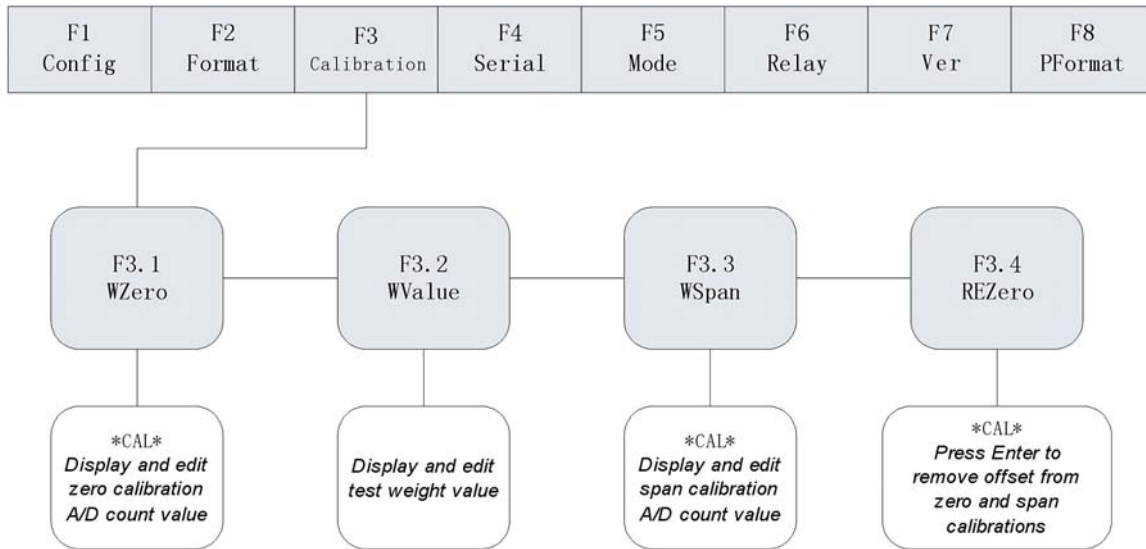
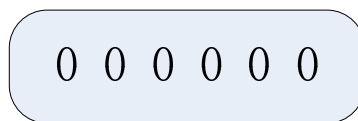

Fig. 4-1 F3(Calibration) Menu
Fig. 4-2 Editing Procedure for Numerical Values
- (1) Turn on the K1 switch to set indicator to the Configuration mode (display shows “F 1”) and remove all weight from the scale platform. If the test weights require hooks or chains, place the hooks or chains on the scale for zero calibration.
- (2) Press  $\blacktriangleright$  until the display shows “F 3” (see Fig. 4-1). Press  $\blacktriangledown$  to go to zero calibration mode. Display shows “F 3” (see Fig. 4-1).
- (3) When display shows “F 3.1”, there are 2 options :
- Press  $\blacktriangledown$ , display shows the A/D count of the original zero calibration. It can be edited following Fig. 4-2. When complete, press  $\bigcirc$  to save and to go to the next menu. Display shows “F 3.2”.
- (4) When display shows “F 3.2”, place test weight on the scale and press  $\blacktriangledown$  to show the test weight value. Follow Fig. 4-2 to input the test weight value, then press  $\bigcirc$  to save the value and go to the next menu. Display shows “F 3.3”.
- (5) When display shows “F 3.3”, there are 2 options :
- Press  $\blacktriangledown$  to show the A/D count of the original span calibration. It can be edited following Fig. 4-2. When complete, press  $\bigcirc$  to return to F3.4 Menu. Display shows “F3.4”.
- (6) F 3.4 Menu is used to remove a calibration offset when hooks or chains are used to hang the test weights.
- (3) Press  $\bigcirc$  when display shows “F5.2”. Display shows the code number of the required count items. Following the procedure in Fig. 4-2 to input and edit the code. The allowable selected numbers are 0 to 99. Press  $\bigcirc$  to save the code number and to go to the next menu. The display shows “F5.3”.
- (4) Remove all the weight from the scale platform when display shows “F5.3”. Press  $\bigcirc$  to zero the scale. Display shows “CAL” while processing the zeroing operation. When complete, display shows “F5.4”.
- (5) Press  $\blacktriangledown$  when display shows “F5.4”. Display shows the sampling quantity of the count items. Use  $\blacktriangleleft$ ,  $\blacktriangleright$  keys to specify the sampling quantity. Place the same quantity of the sample count items onto the scale platform as the input sampling
- (6) Press  when display shows “F5.5”. Display shows “CAL” while processing the average weight setting. When complete, there are 2 possible outcomes :
- (7) There are 2 options when display shows “F5.2”.
- Repeat (3) to (6) if another average weight setting is required.
- (3) When displays shows “F6.1”, press  to go to the F6.2 Menu and display shows “F6.2”.
- (4) When display shows “F6.2”, press  and display shows the value of Relay 1 setting. Edit Relay value according to editing procedures in Fig. 4-2. When complete, press  to store the value and return to F6.3 Menu. Display shows “F6.3”.
- (5) When display shows “F6.3”, press  and display shows the value of Relay 2 setting. Edit Relay value according to Fig. 4-2. When complete, press  to store the value and return to F6.1 Menu. Display shows “F6.1”.
(6) Turn off the K1 switch to exit from Calibration mode and enter into Weighing Mode.